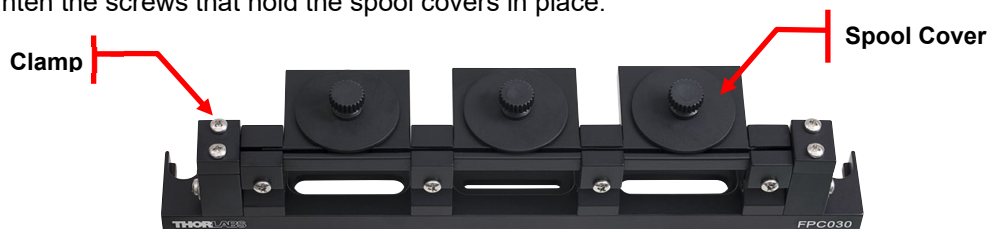

Figure 7 Top View of FPC030
1. Loosen the spool covers on each paddle. Each end of the fiber polarization controller (FPC) also has a rectangular clamp held in place by two phillips head screws (Figure 7). Remove one screw and loosen the other. This should allow a jacketed fiber to be slipped into the clamp.